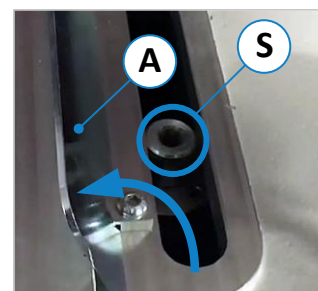

Figure 39: Clamping screws
- Fold up the two cover plates (A) on the left and right side of the fence (see ⇒ Figure 39).
- Then remove the two clamping screws (S) shown in ⇒ Figure 39 (unscrew them completely).
- the two fixing screws (⇒ Figure 39) must be completely unscrewed (fence type 320).